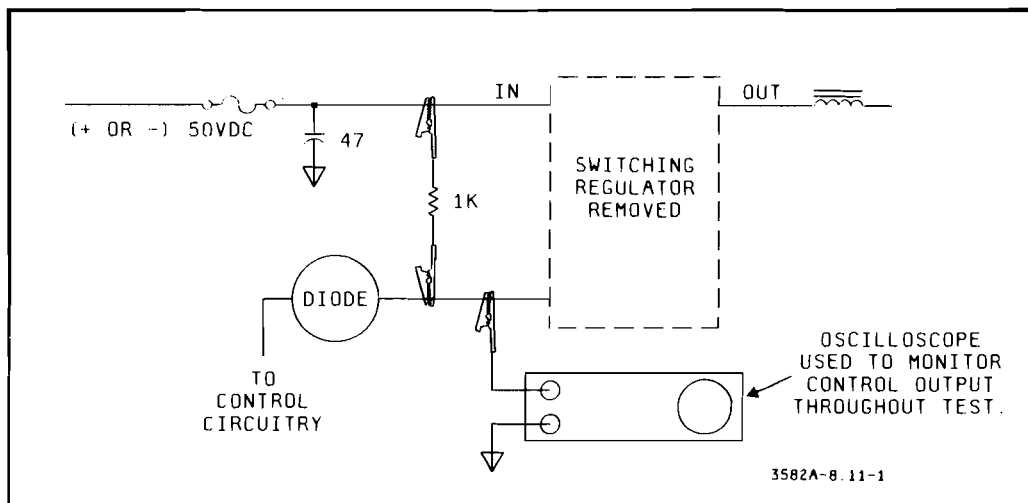

Figure 8-11-1. Initial Power Supply Test Setup.
- d. Connect a 1Kohm resistor (-hp- 0683-1025) between the (+ or -) 50V input to the switching regulator and the control input to the switching regulator (use Figure 8-11-1 and the proper schematic as a guide).
g. Set up an oscilloscope for reading $\pm 80\text{VDC}$ and set the sweep for 10usec. Connect the oscilloscope to the control input line of the switching regulator (see Figure 8-11-1).